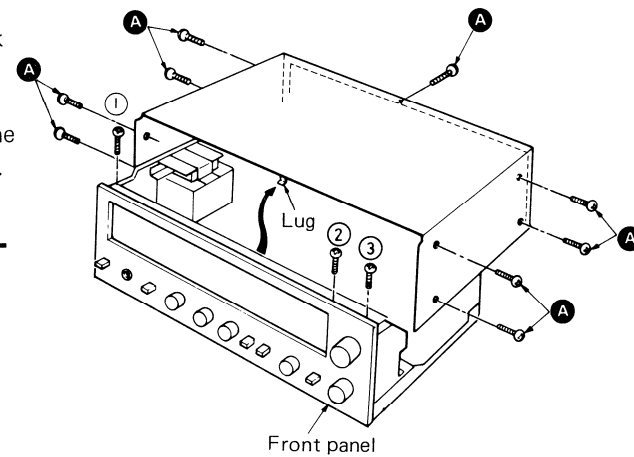

Fig. 1
1. Remove the 9 setscrews (Fig. 1: A) on the side and the back of the cabinet.
1. Remove the 3 setscrews [Fig. 1: ①~③] holding the front panel and remove the 3 setscrews [Fig. 2: ④~⑥] holding the bottom board.